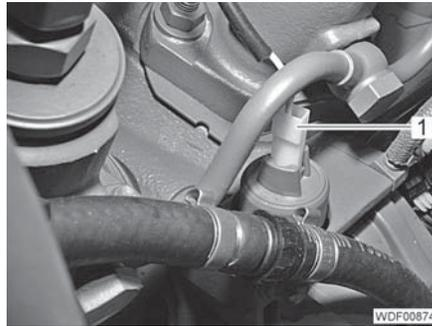

Fig. 43 LDA
- Attach the connector (Fig. 43,1) to the LDA.